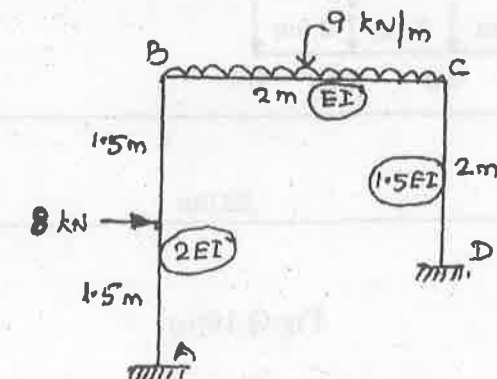

Fig. Q.14.(b)
- (b) Analyze the portal frame shown in Fig.Q.14.(b) by slope deflection method and draw the bending moment diagram.